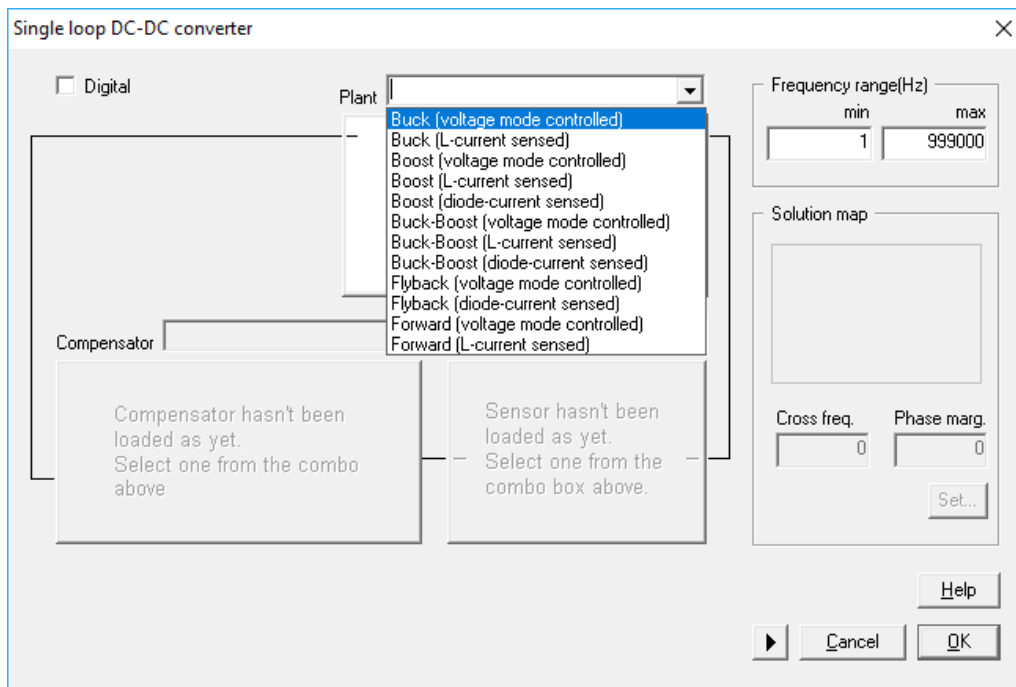
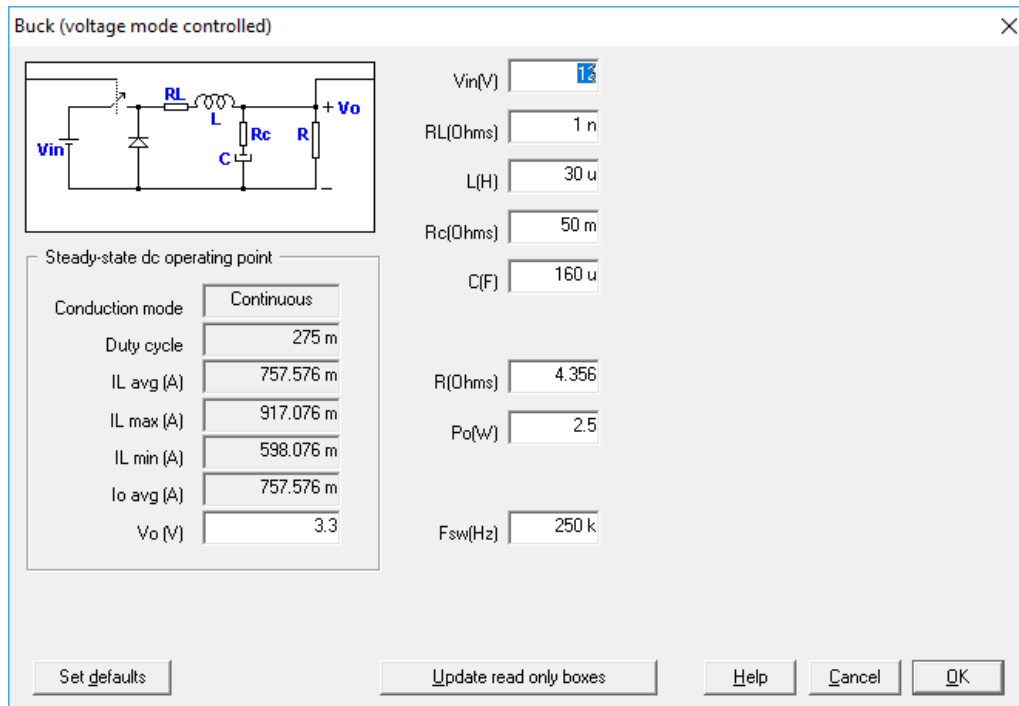

Figure 4: Defining the converter analog topology
Figure 5: Plant parameters
3. Select a buck converter and parametrize it as follows. See Figure 4 and Figure 5.